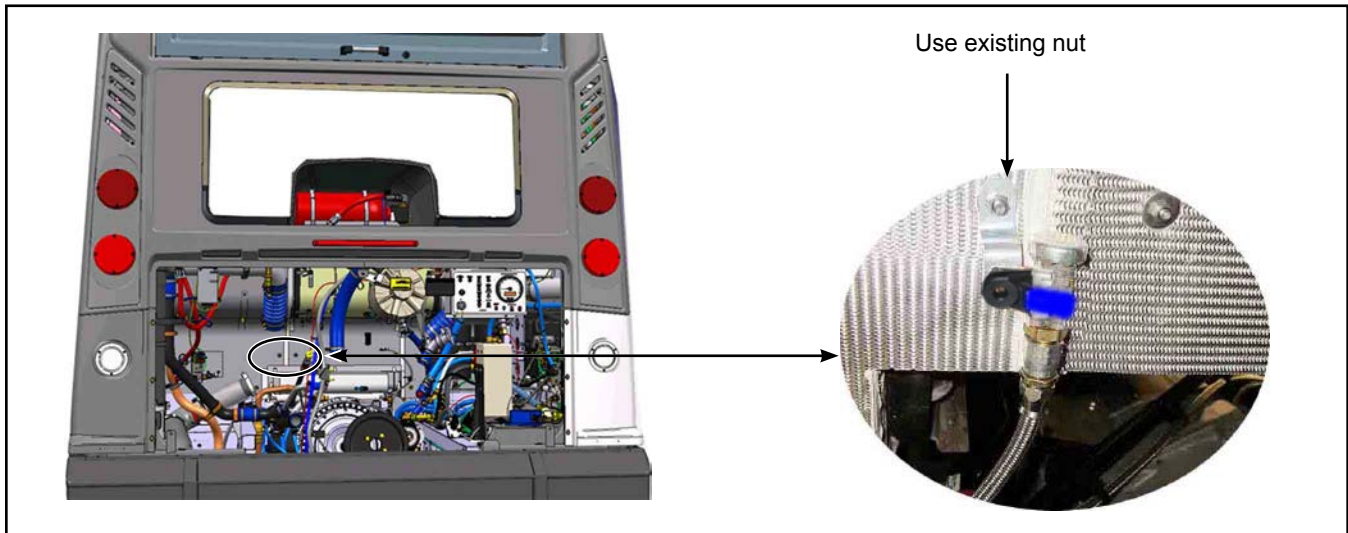

Figure 11 - Installation in Engine Compartment
1.18. Install the assembly as shown in Figure 11. Access will be easier from the two-seat opening.